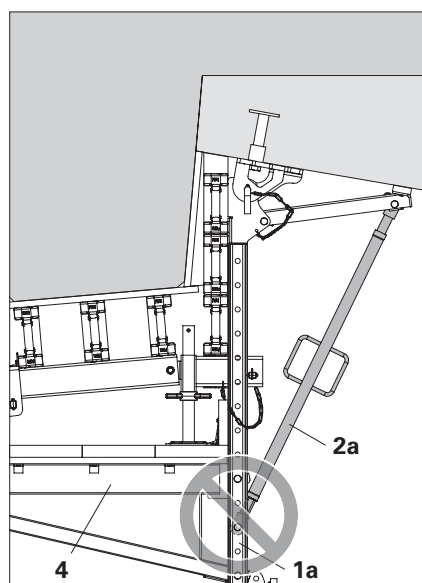

Fig. A4.01b
- Never attach Kicker AV 82 (**2a**) between the fixing points of Platform Cantilever Beam VGK 170 (**4**). (Fig. A4.01b)